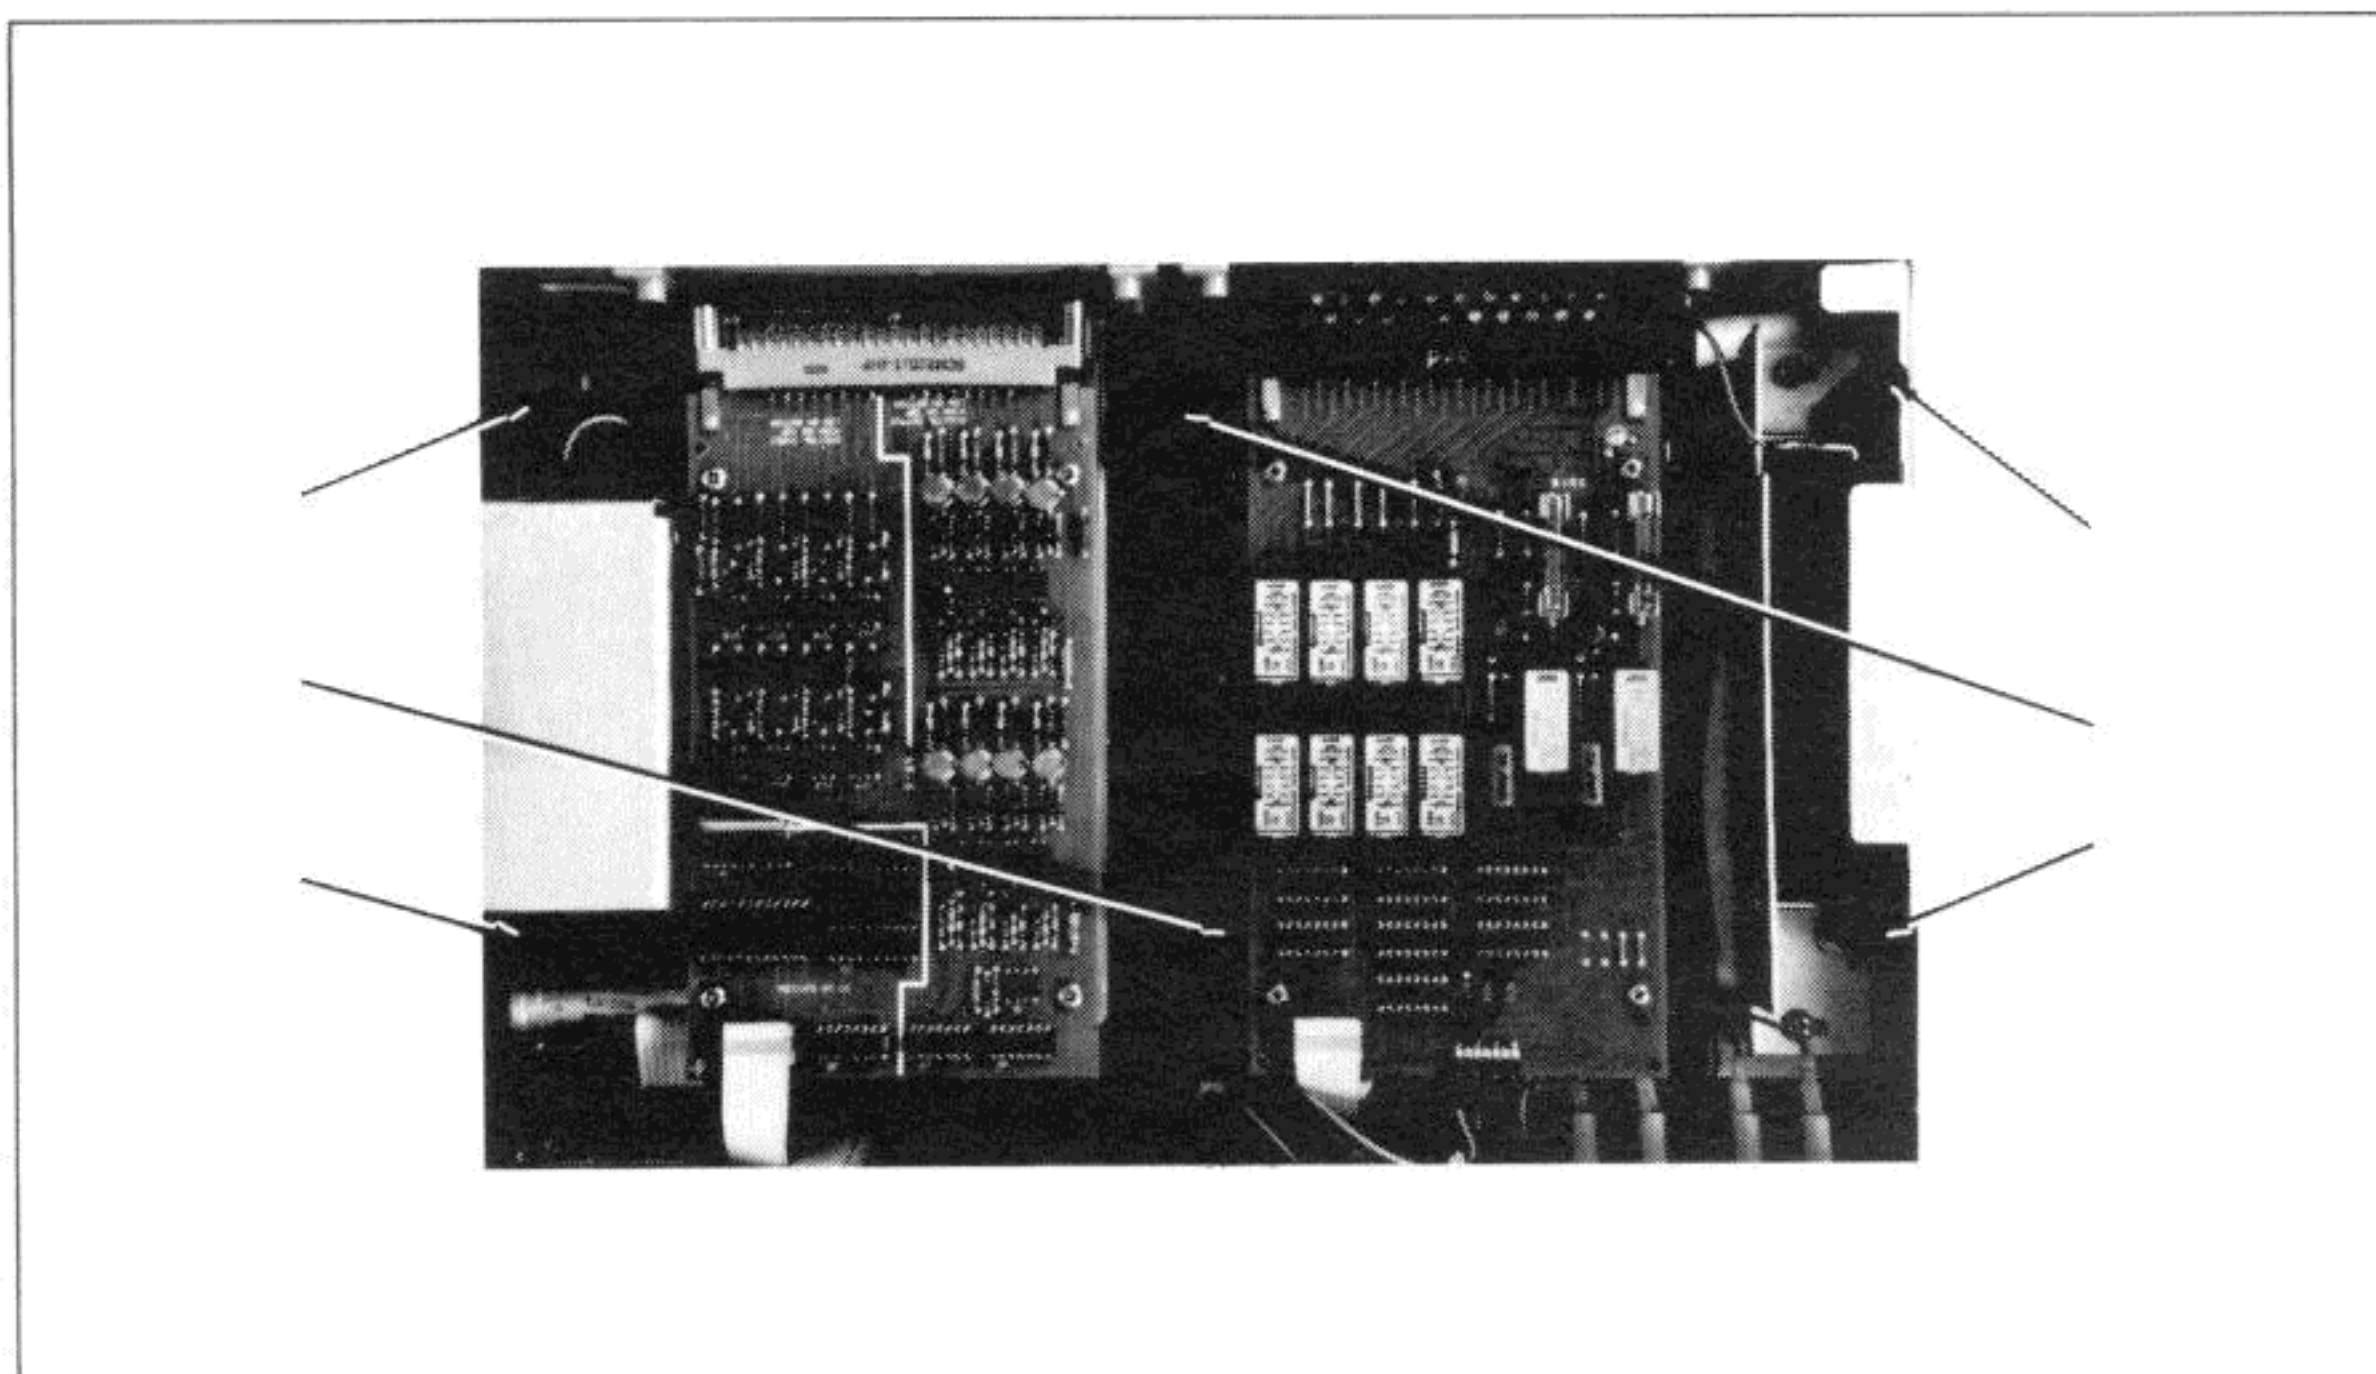

Figure 4-2-8. Plastic Spacer Placement
- v. Locate the six plastic spacers and place them over the six cabinet screws as shown in Figure 4-2-8.